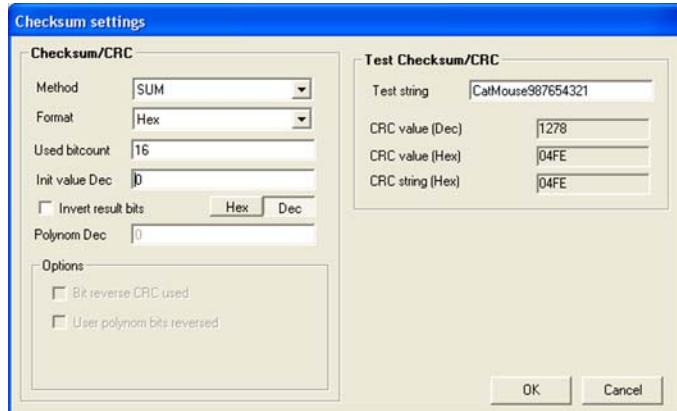

Figure 82 Checksum Settings Window
3. Select the **Report** tab on the right and click the **Checksum** button. The **Checksum settings** window opens as shown in Figure 82 on page 168.